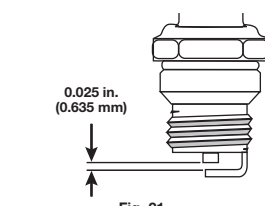

Fig. 21
4. Replace cracked, fouled or dirty spark plug. Set the spark gap at 0.025 in. (0.635 mm) using a feeler gauge (Fig. 21).